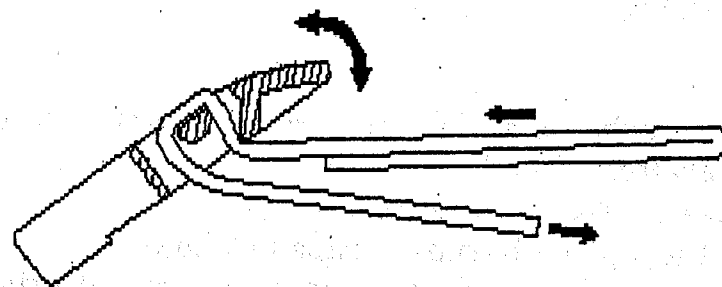

Fig 7
- The bottom two ladder lock buckles (see fig 7) are running buckles